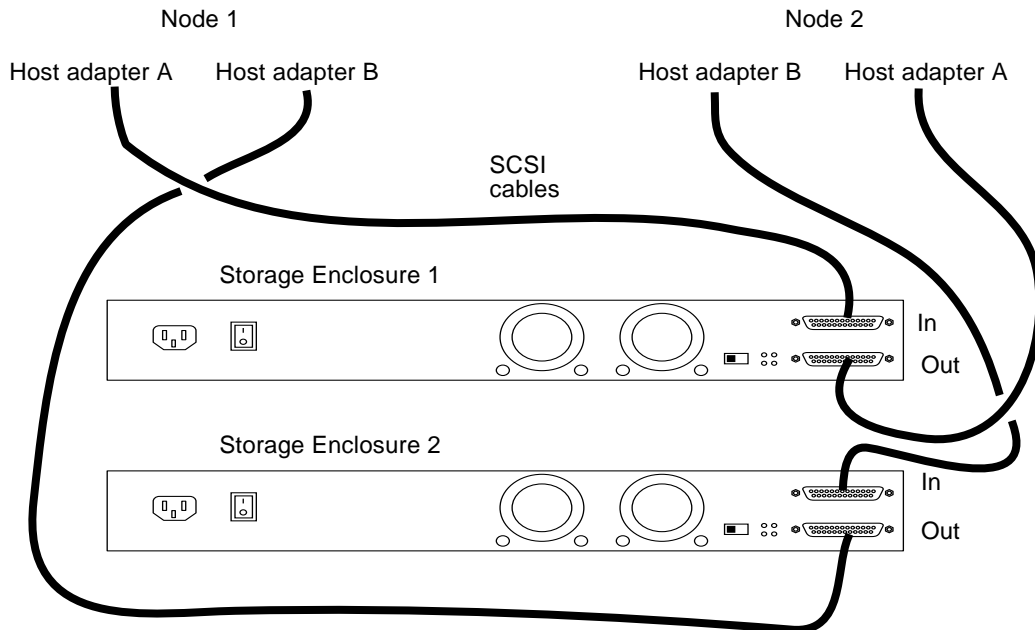

FIGURE D-4 Example of SCSI Cabling for an Enclosure Mirrored Pair
1. **Connect the cables to the Netra D130/StorEdge S1 enclosures, as shown in FIGURE D-4.**
2. **Connect the cables to the Netra D130/StorEdge S1 enclosures, as shown in FIGURE D-4.**